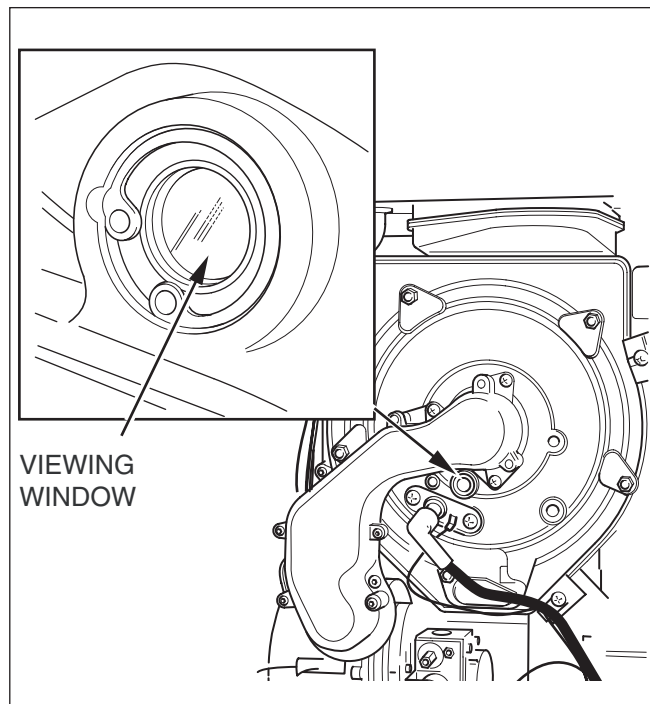

Fig. 8.3 Flame picture
1. Check the combustion, preferably with a flue gas analyser, see section 9. If a flue gas analyser is not available remove the outer and inner case, see figs 8.1 and 8.2, and taking care not to touch any components, check the flame picture through the viewing window, fig 8.3.